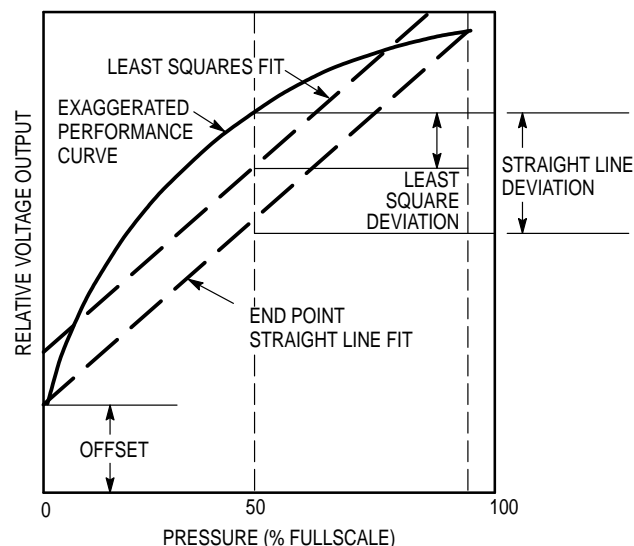

Figure 2. Linearity Specification Comparison
Linearity refers to how well a transducer's output follows the equation:  $V_{out} = V_{off} + \text{sensitivity} \times P$  over the operating pressure range. There are two basic methods for calculating nonlinearity: (1) end point straight line fit (see Figure 2) or (2) a least squares best line fit. While a least squares fit gives the "best case" linearity error (lower numerical value), the calculations required are burdensome.